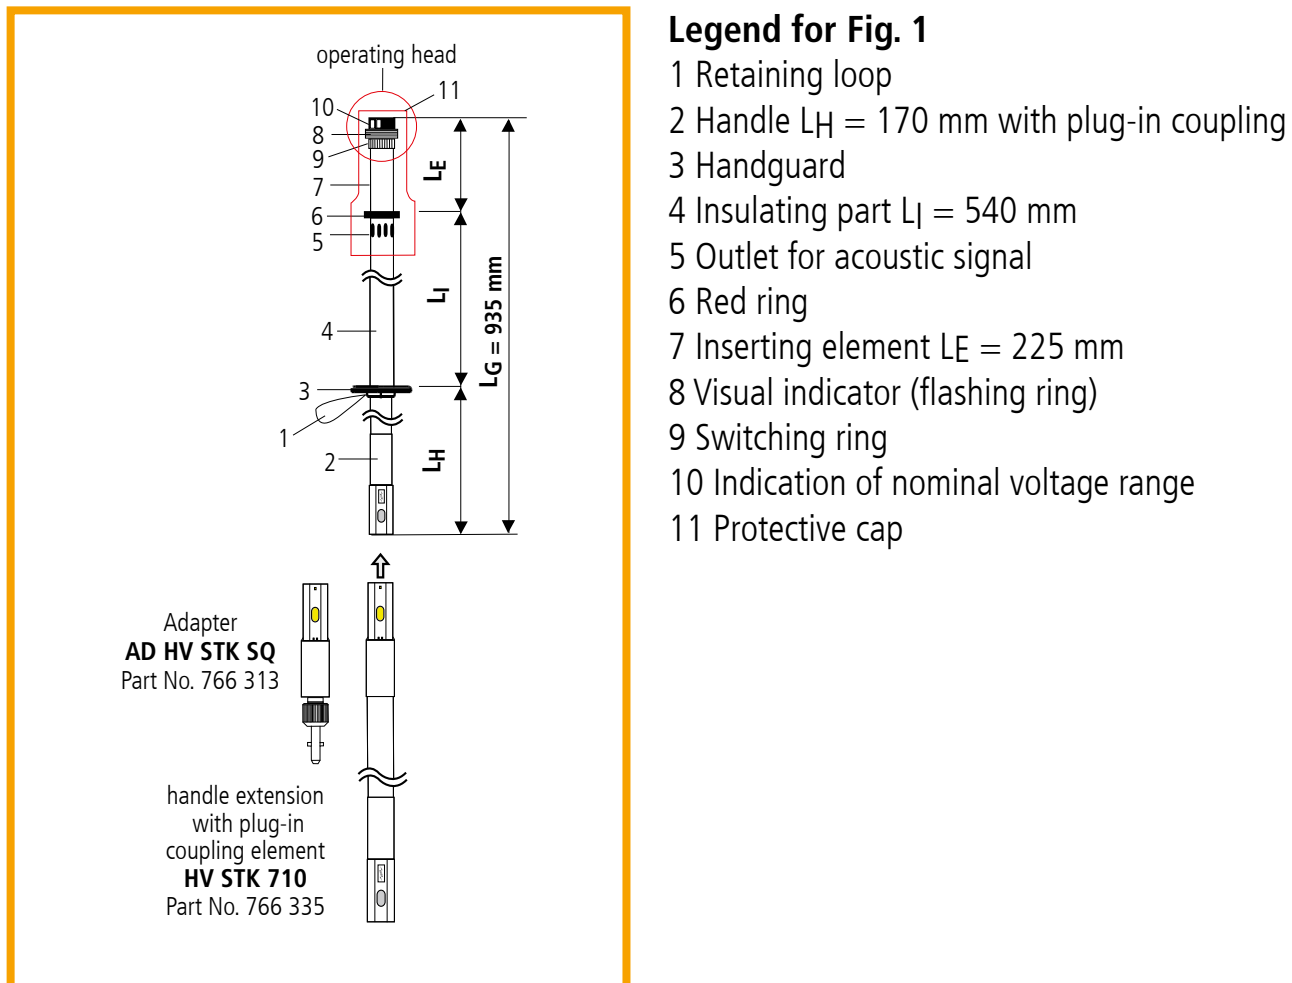

Fig. 1
- 1.5** For voltages ranging between 1 kV and 36 kV, the voltage detector may be used with transparent insulating cap only (see Fig. 1).
- 2.1** The design of HSA 205 voltage detector is illustrated in Fig. 1.